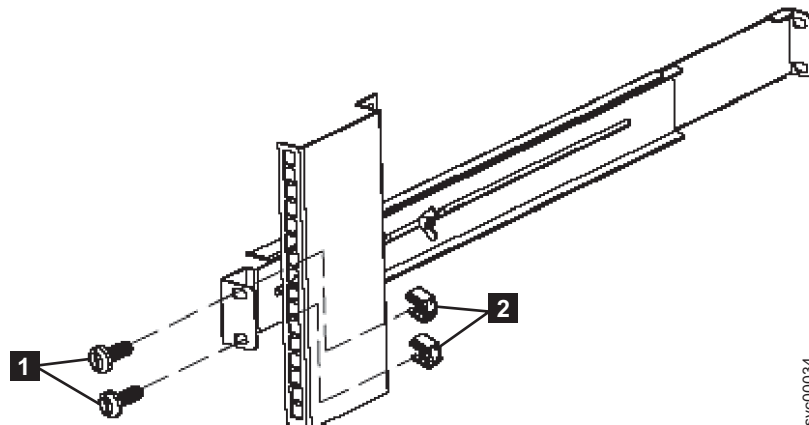

Figure 51. Securing the rear rail on the 2145 UPS-1U
7. Using two M6 × 10 screws (**1** in Figure 51) and two clip nuts **2**, attach the rail to the rear of the rack. The customer's rack might be different than the one shown here, and if so, might require different clip nuts or fasteners.